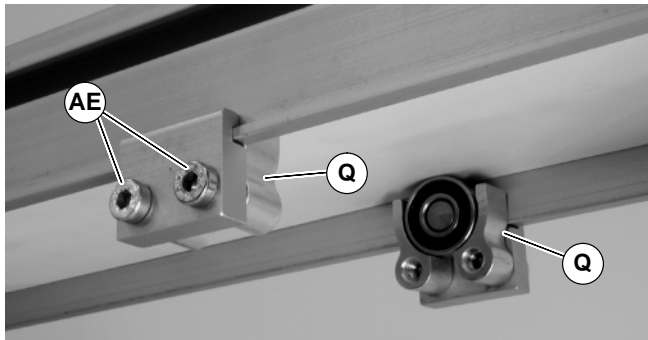

Figure 14
3. Install roller assemblies (Q of Figure 14) as shown. Tighten screws (AE) to 60 in-lb (7 Nm).